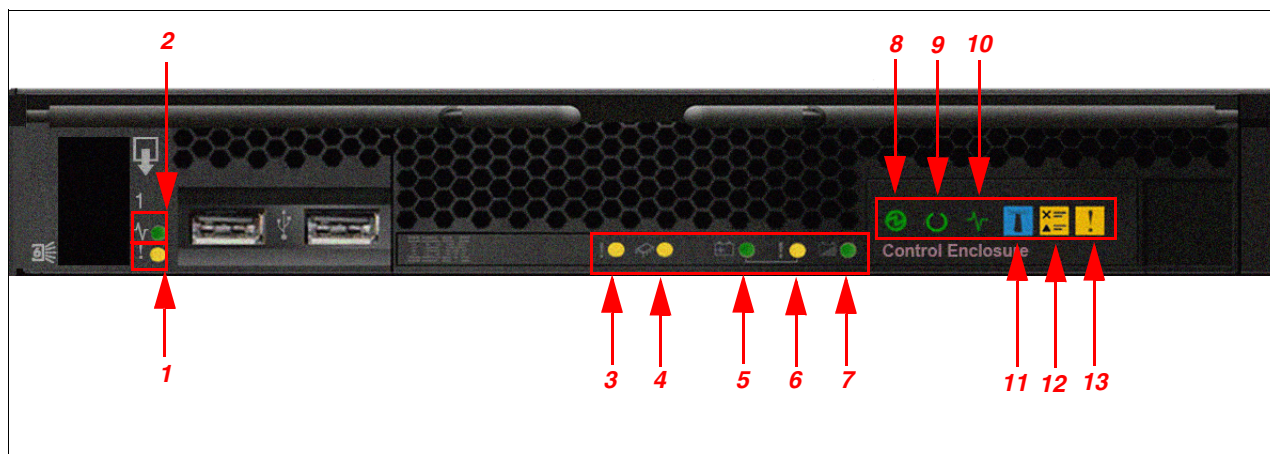

Figure 13-2 Node canister LED layout
appropriate actions to take to resolve the issues. See Figure 13-2 for a description of the various LED states that you might observe.
1. Start by considering the state of the power LED **8**, as shown in Figure 13-2 and Table 13-2. Continue to troubleshoot the canister until the power LED is ON.
3. Verify that no faults are detected on the control enclosure after powering on. Use Table 13-2 on page 526 to verify the state of the LEDs on the control enclosure. See the IBM Flex System V7000 Storage Node Troubleshooting, Recovery, and Maintenance Guide PDF on the CD if problems are encountered. Figure 13-2 on page 526 shows the location of the LEDs on the front of the control enclosure.